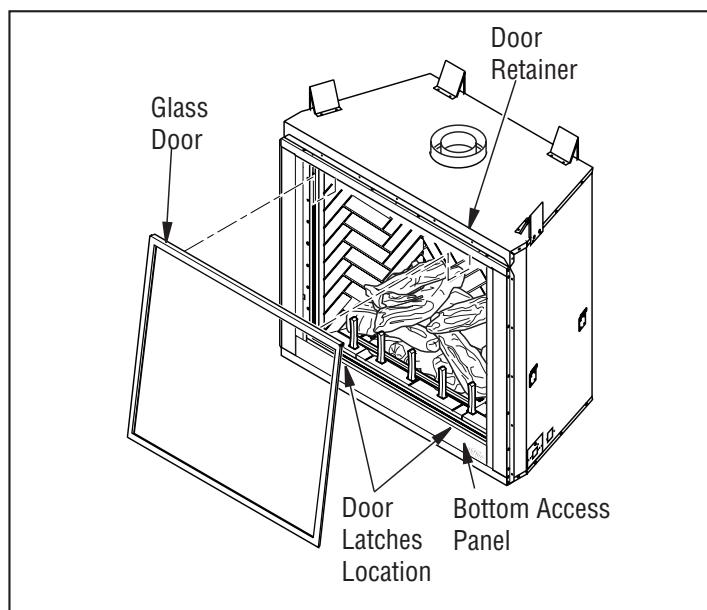

Figure 27 - Removing/Replacing Door
4. Tilt open glass door 45° from the bottom of firebox and lift up to release door from firebox top retainer (see **Figure 27**).
1. Position door frame in front of firebox opening with bottom of door tilted away from firebox (see **Figure 27, Page 19**).